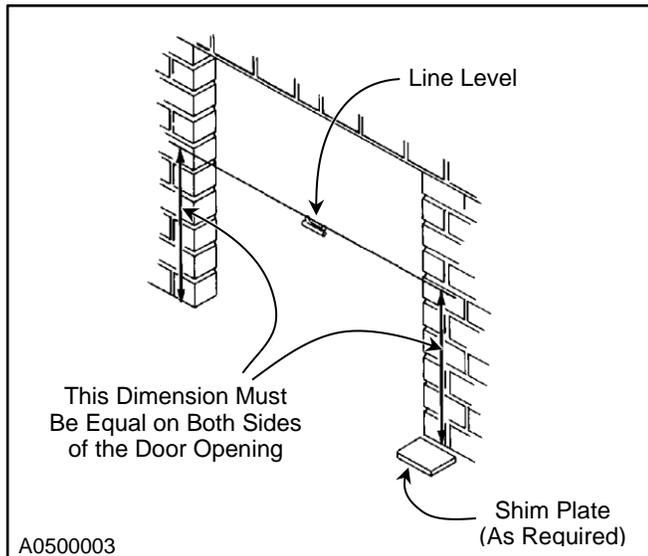

**Figure 6**
2. Using the centerline as a reference point, lay out and mark half of the door's production width along the floor. (See Figure 6)